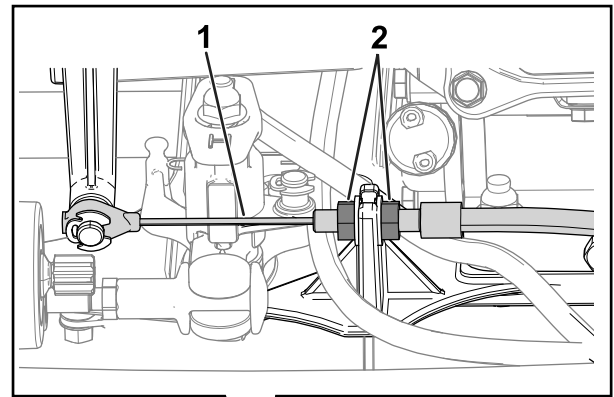
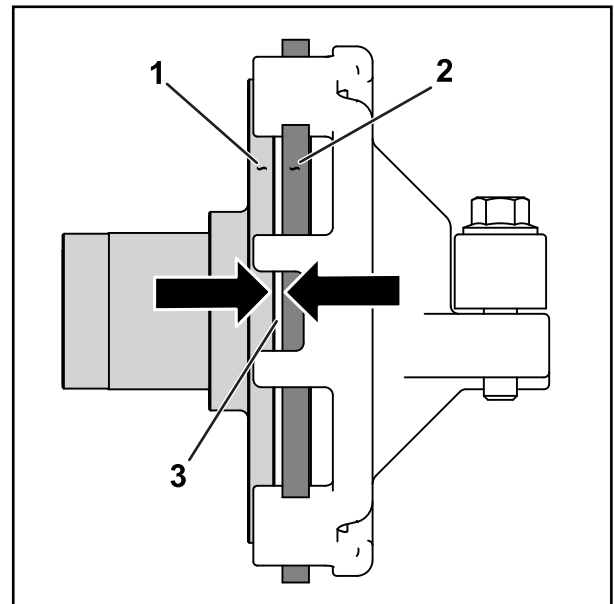

Figure 34
Figure 35
2. Loosen the jam nuts and adjust the traction cable (Figure 34) so that a 1.1 mm (0.045 inch) gap is between the friction disc and the pressure plate (Figure 35).